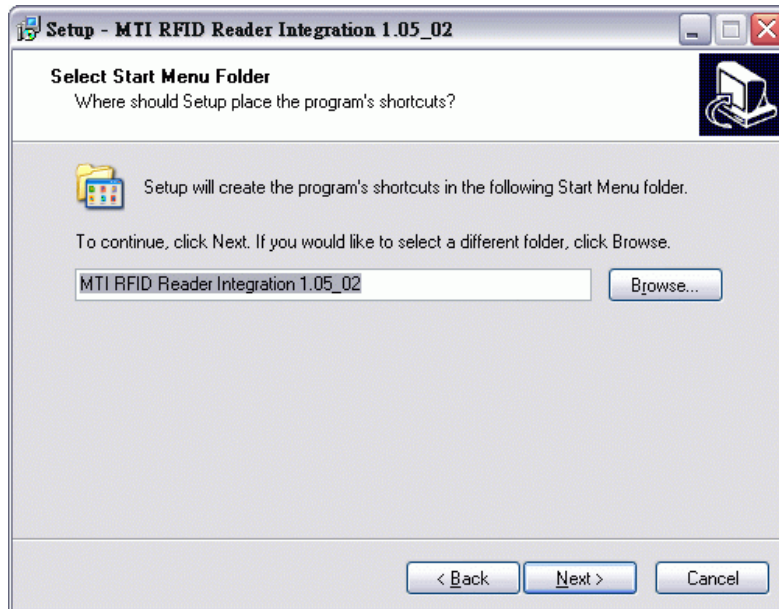

Fig. 4 Select start menu folder to install.
**Step 3:** Select start menu folder where the program's shortcuts will be placed, shown in Fig. 4